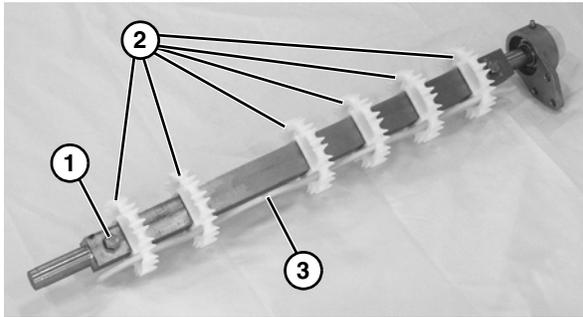

**Figure 67**
2. Remove the bearing cover (**Figure 67, item 1**).
3. Use a hex wrench to loosen the bearing shaft assembly fasteners (**Figure 67, item 2**).
4. Slide the bearing flange assembly (**Figure 67, item 3**), off the spindle shaft end (**Figure 67, item 4**).